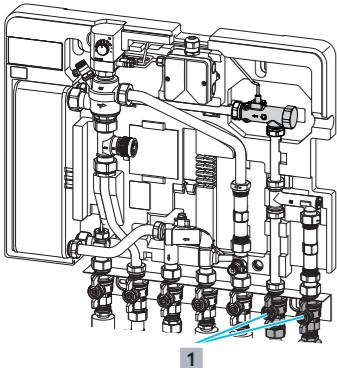

Fig. 3: Removing / installing the flow sensor
1 Close the 2 ball valves shown (see Fig. 3 (1)) of the ball valve connector block.